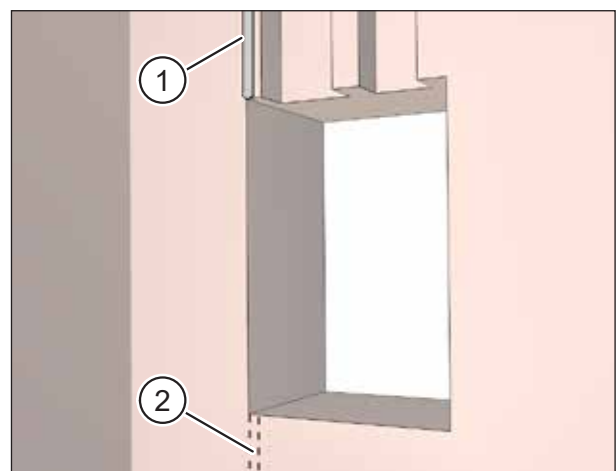

Fig. 18: Chasing out channels for connecting cables
- ▶ Chase out a channel for the mains and control cables (item 1 in Fig. 18).
The wall channel in Fig. 18 is shown by way of example. An alternative wall channel is shown as dashed lines (item 2 in Fig. 18). For the subsequent electrical installation work, we recommend running the mains and control cables from the left at the wall breakthrough.